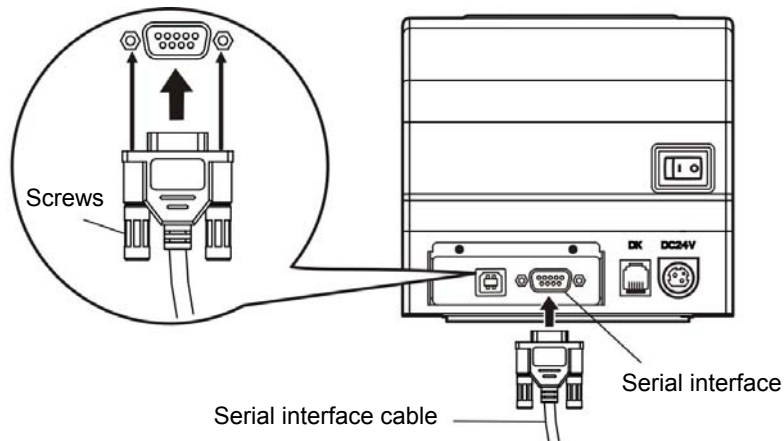

Figure 2-5 Connecting the serial interface cable
1. Make sure the computer and the printer are both turned off, plug the serial cable to the serial interface of the printer. Tighten the screws on both sides and make the cable fixed. As shown in Figure 2-5.